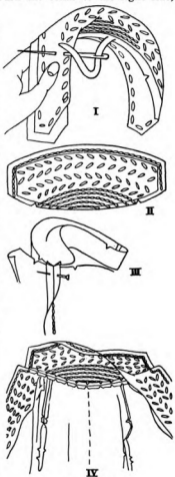

FIGURE 145
*Tailored Collar* (Figure 145). — Fold the material crosswise, pin the muslin pattern, and cut (except in cases where contrasting colors or materials are used for one side of the collar). The muslin pattern is placed on the wrong side of the back of the collar and is used for an inner lining. Pin and baste the collar lining  $\frac{1}{2}$  inch from the edge of the entire collar, then trim the inner lining  $\frac{1}{4}$  inch from the edge of the collar (I). This is held in place with close rows of machine stitching stitched in a half-moon shape. The width of the moon, as a rule, is a little less than half the width of the center part of the collar. The length of the moon at the neckline should extend one inch to the front of the shoulder seam. Fill in the rest of the collar, beginning at the stand with rows of stitching like the diagonal basting stitches (Figure 9), which are invisible on the back of the collar (II). Make the stitches about  $\frac{3}{4}$  inch long. The joining of the coat collar to the lapels of the coat is very conspicuous and must be done accurately and neatly. In stitching the ends of the collar, allow  $\frac{1}{4}$  inch from the edge of the collar line. Hold the collar firmly over the hand with the tip of the collar toward you and, with diagonal basting stitches (I), roll and shape the collar.